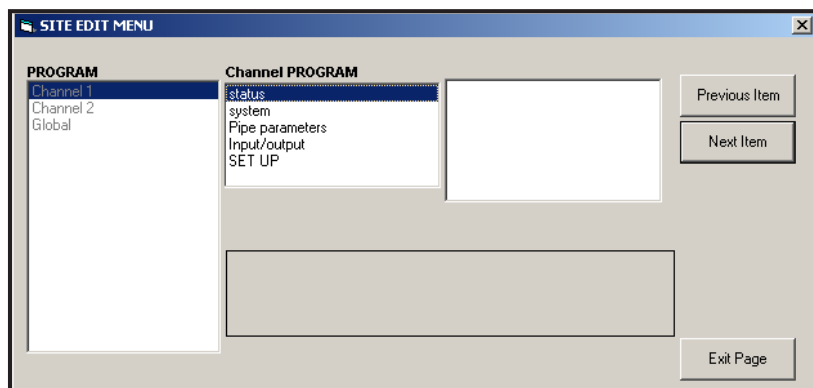

Figure 41: The *Site Edit Menu* Window
3. To enter data into the user program, double-click on the *Site Edit Menu*. The window appears similar to Figure 41.
PanaView returns to the Channel PROGRAM menu shown in Figure 41 on page 95. Proceed to the System option.
- If you are not using Mass Flow, PanaView returns to the Channel PROGRAM window shown in Figure 41 on page 95. Proceed to the Pipe option.
PanaView returns to the Channel PROGRAM window shown in Figure 41 on page 95. Proceed to the Pipe option on the next page.